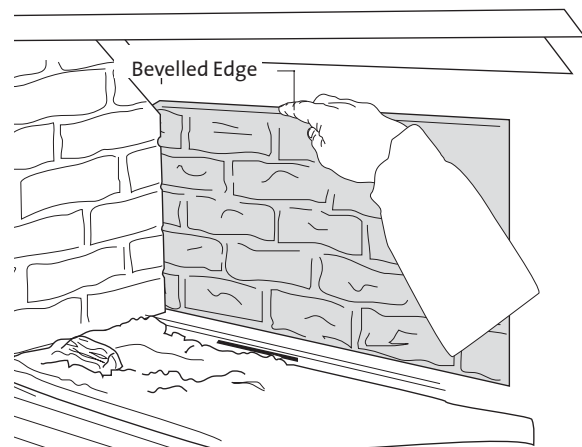

Figure 38. Install Lower Rear Panel.
- 4. Install the Lower Rear Panel.** Orient the panel so that the beveled edge is on top and the mortar joints align with those on the side panels. Engage the bottom edge between the rear wall and the base. Press the panel snugly between the two side panels. See Fig. 38.